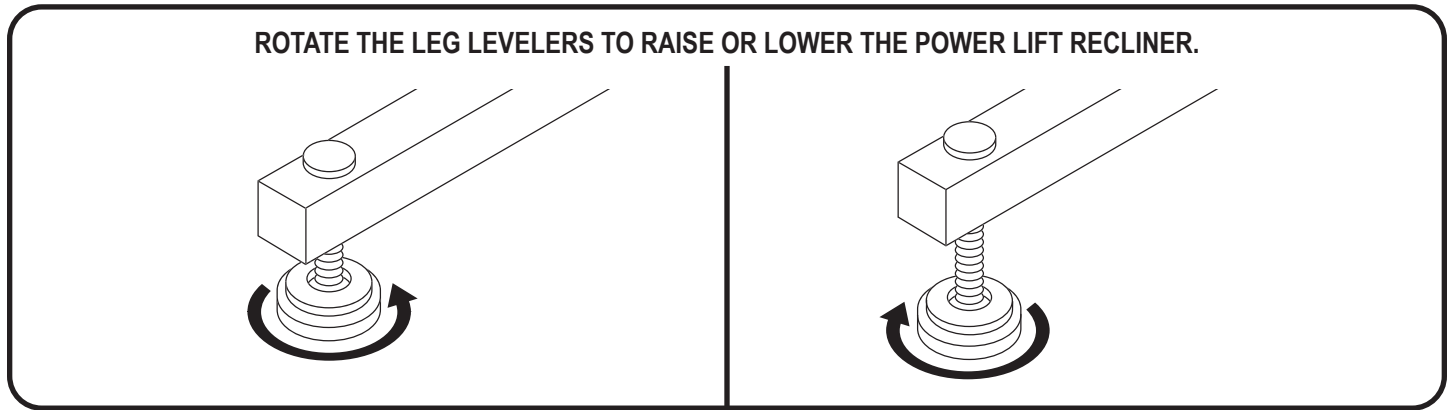

Figure 3.2 Leg Levelers
Leg Levelers: Manually rotate up or down in order to stabilize the recliner before use (**Fig. 3.2**).
2. Adjust the leg levelers to stabilize the power lift recliner (**Fig. 3.2**).